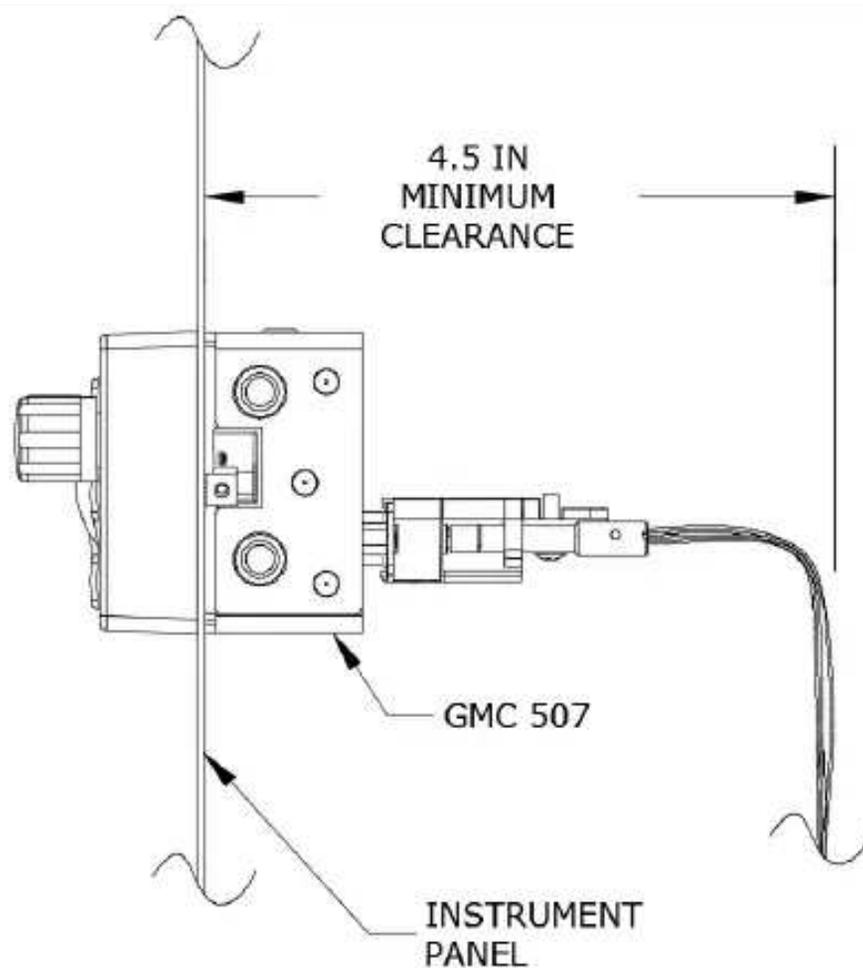

Figure 4-9 – Clearance for Connection
6. The location of the cutout must allow for sufficient clearance for the GMC 507 wiring, see Figure 4-9.